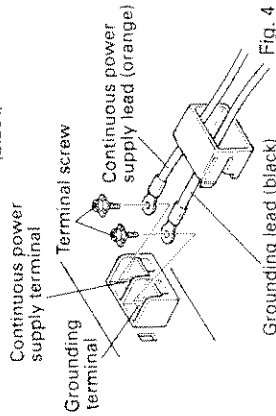

Fig. 4
3. Replace the screws removed in step 2 in the terminals and tighten them. (Fig. 4)